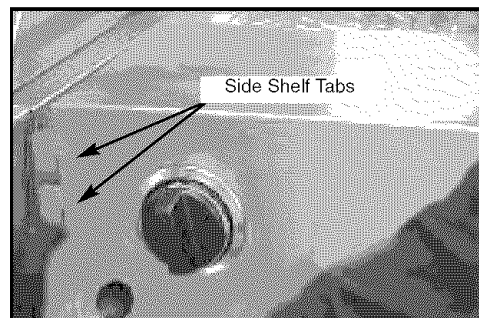

Fig. 8
1. Attach the side burner shelf to the grill by inserting the shelf hooks into the slots on the side of the grill and pushing down on the shelf assembly until level with the grill. (See Fig. 8)